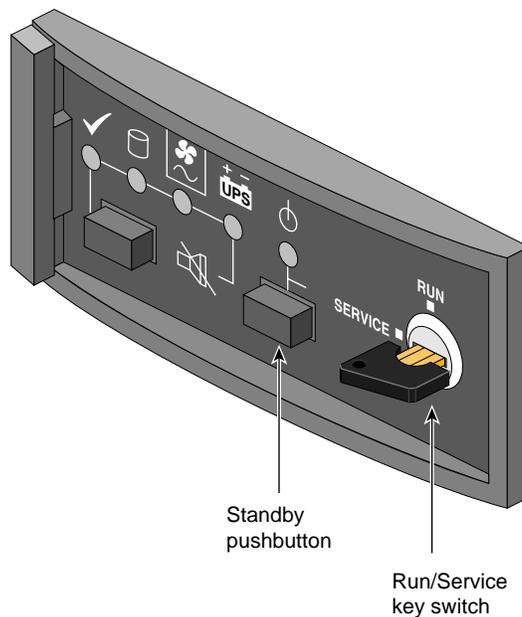

Figure 2-17 Setting the Run/Service Key Switch to Service
2. If you are going to power off the D-brick or the entire system, make sure that the D-brick's Run/Service key switch on the ESI/Ops panel is set to Service, as shown in Figure 2-17.